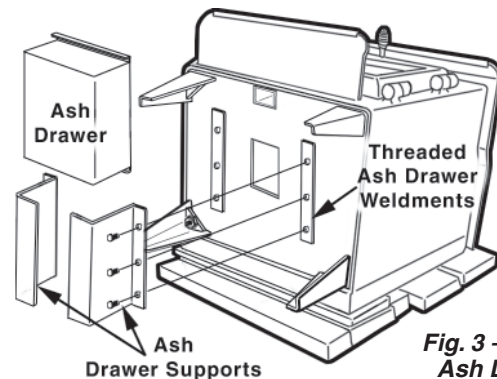

Fig. 3 – Attach Ash Drawer
6. Next install the Ash Drawer Supports to the threaded weldments on the bottom of the stove, fig. 3. Each support uses three threaded bolts as shown.